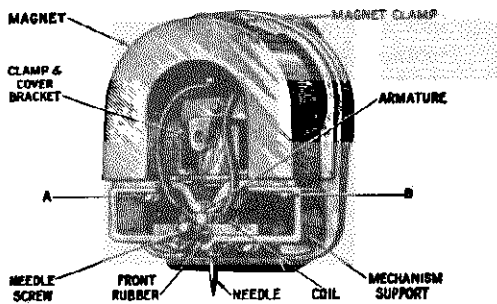

Figure 15—Pickup Nomenclature
In order to replace a defective coil or the hardened pivot rubbers (see Figure 15), it is necessary to proceed as follows:
- (d) Remove screws A and B, Figure 15 and then remove the mechanism assembly from the pole pieces.
the armature centered properly. The adjustment is made by loosening screws A and B (Figure 15), and sliding the mechanism slightly in relation to the pole pieces.